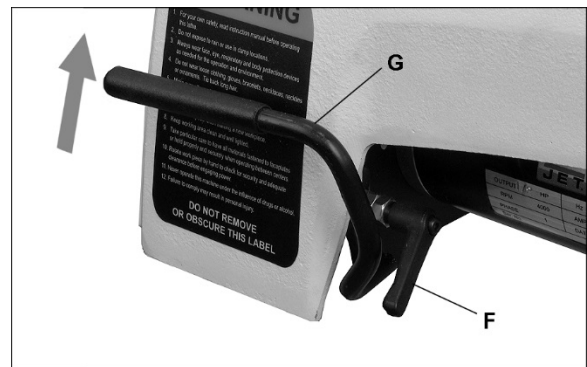

Figure 14
2. Relieve belt tension by loosening handle (F, Figure 14), then pulling up lever (G).
4. Push lever (G) down to tension belt.
5. Tighten handle (F) and close access doors.